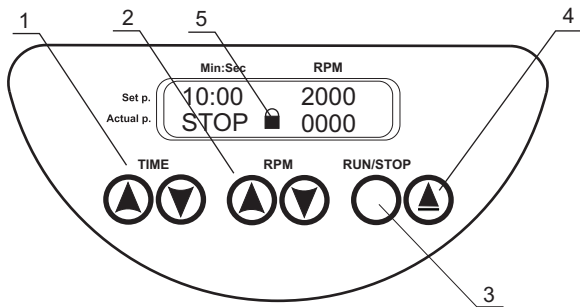

Fig.3 Control panel
- 4.5. Close the lid (the clicking sound of the lock) readings STOP and  (fig.3/5) in the lower line of the display indicate that the lid is closed.
- 4.6. With the “▲” and “▼” **TIME** buttons (fig. 3/1) set the required time interval (0-90 min, increment 1 min).
- 4.7. With the “▲” and “▼” **RPM** buttons (fig. 3/2) set the required speed (100-3000 RPM, increment 100 RPM). Note that the speed can also be adjusted during operation.
- 4.8. Press **RUN/STOP** button (fig. 3/3) to start centrifugation. Blinking indication RUN and current speed is displayed in the lower line. The timer in the upper line starts countdown after the set speed is achieved (stable indication RUN).
- 4.9. Centrifugation is stopped automatically after the set time elapses (while braking display shows blinking indication STOP. A sound signal is emitted after full stop of the rotor (press **RUN/STOP** button (fig.3/3) to stop the signal).
- 4.11. Press the button ▲ (fig.3/4) and open the lid lifting it upwards with a hand (it is possible to open the lid only when the rotor is stopped). Display shows OPEN.